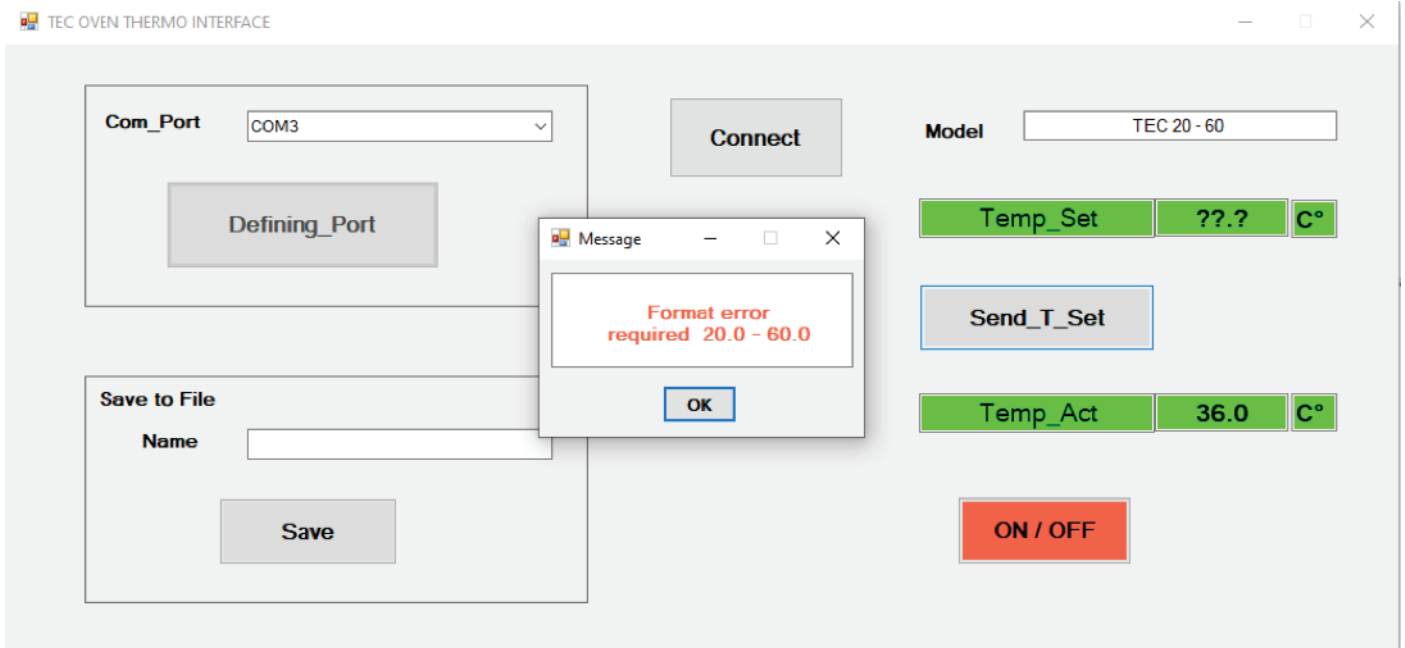

FIGURE 6. User Interface Software
- If the desire temperature format is incorrectly set, the message '**Format error. required 20.0 – 70.0**' appears. (figure 6)